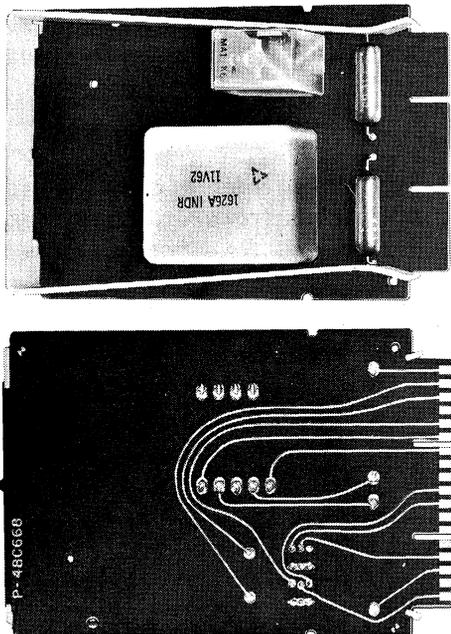

Fig. 1 — 401A Key Telephone Unit
1.01 The 401A key telephone unit (KTU) provides for manual intercom service in the 1A2 key telephone system (Fig. 1).